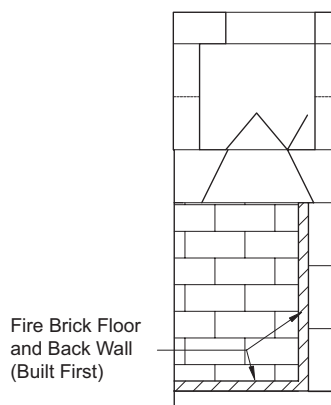

FIGURE 66
5. Set the side wall firebrick by starting at the front edge of the unit's side wall and working inward toward the back wall firebrick. The side wall firebrick, when completed, covers the 1/2" expansion gaps where both the floor firebrick and the back wall firebrick were held off the units side walls. (Figure 66)